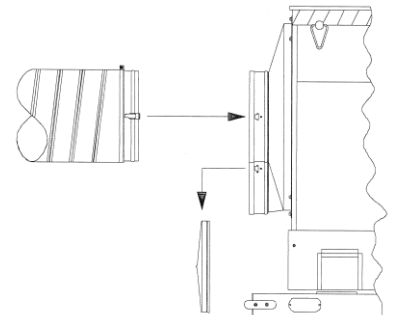

FIGURE 6
2. Place air duct in aircraft and ensure that the opening is unobstructed. Remove yellow output air duct from the storage compartment located under the unit. Remove yellow dust caps from the input and output duct openings located on the back of the air conditioner and place in the storage compartments. Attach yellow output air duct to the air conditioner via the duct openings located on the back of the air conditioner. **See Figure 6.** Place other end of yellow duct into the aircraft.